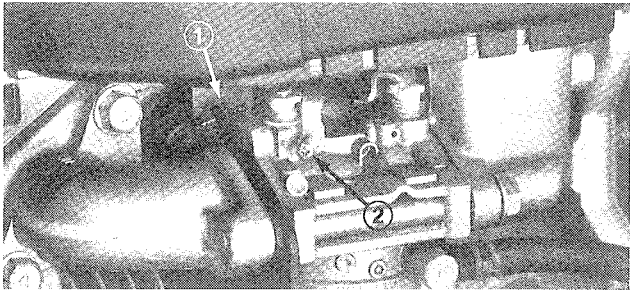

Figure 20
1. Idle Mixture Screw (Fig. 20) — Close screw by gently rotating it clockwise.
2. Rotate — open — the screw 1-1/8 turns counterclockwise (Fig. 20).